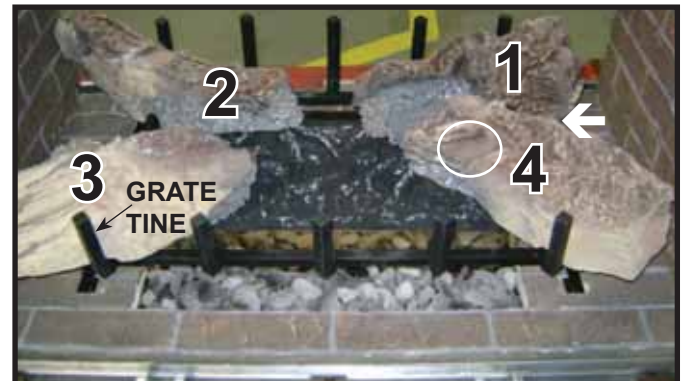
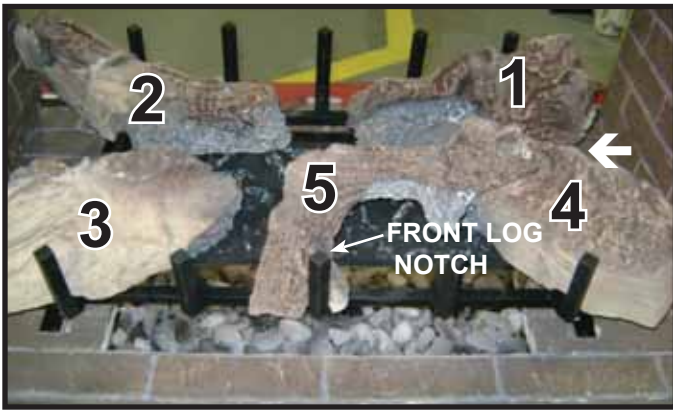

Figure 11. Reverse View
Figure 12.
**LOG NUMBER 4 (SRV2146-704):** Place Log #4 so that the groove on bottom of log rests on the grate bar as show in Figure 10. Push log so that it rests against the grate tine shown in Figure 11. The “burnt” end of the log rests on the burner. The log must **NOT** block any burner ports.
**LOG NUMBER 5 (SRV2146-705):** Place Log #5 from side of unit where pilot is located on your right side. Place log so the front log notch engages the center grate tine as shown in Figure 12 and the right side of log rests on the notch in Log #4. See Figure 11. The notch is visible in Figure 11. The log must **NOT** block or sit directly over any burner ports.